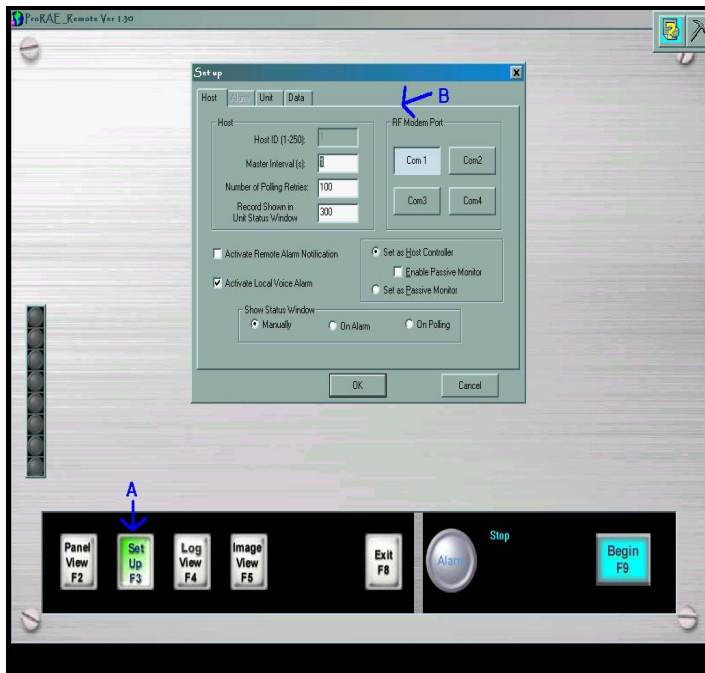

Figure 2. Set Up>>RF Modem Port. Press F2 (A) to activate 'Set Up' dialogue box, and proceed to select communication port that the RAE Link is plugged into (B).
5. **COM PORT:** The same communication port that the RS232 cable is plugged into must be selected in the software. Within the ProRAE Remote proceed to 'Set Up' (A)>>'Host'>>'RF Modem Port' (B) (Figure 2, Page 2). Refer to TN-170 for more detailed setup instructions including using USB ports. The chosen communication port must be functioning properly and cannot be occupied by another program. To verify the functionality of the communication port, RAE Systems Com Port Checker Kit (part #029-0005-000) can be used. Simply follow the instructions provided with the Checker Program.